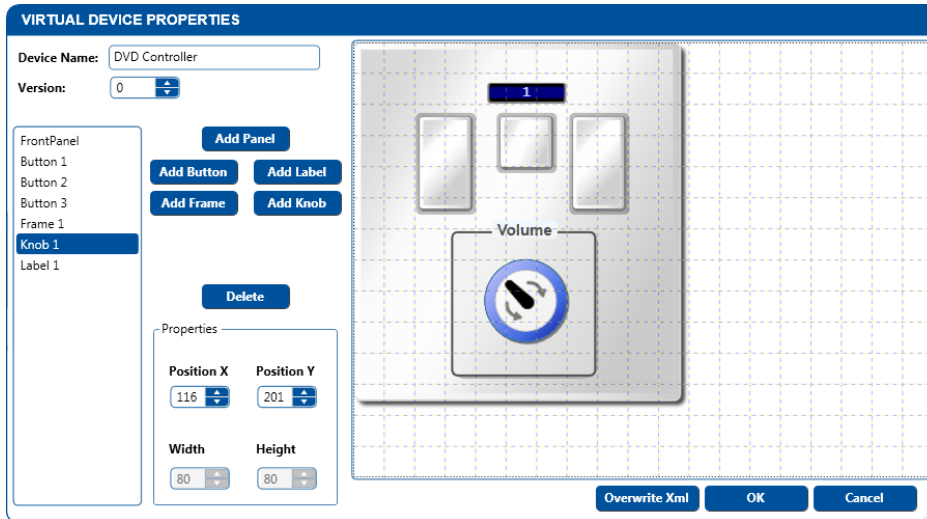

Figure 154: Editing the Virtual Keypad Device (Step 2)
2. Add a knob and frame and then set the size of the panel, the size of the buttons, the text label size and their position (set the position by selecting and dragging the item), as well as the virtual keypad device Name (see Figure 154):